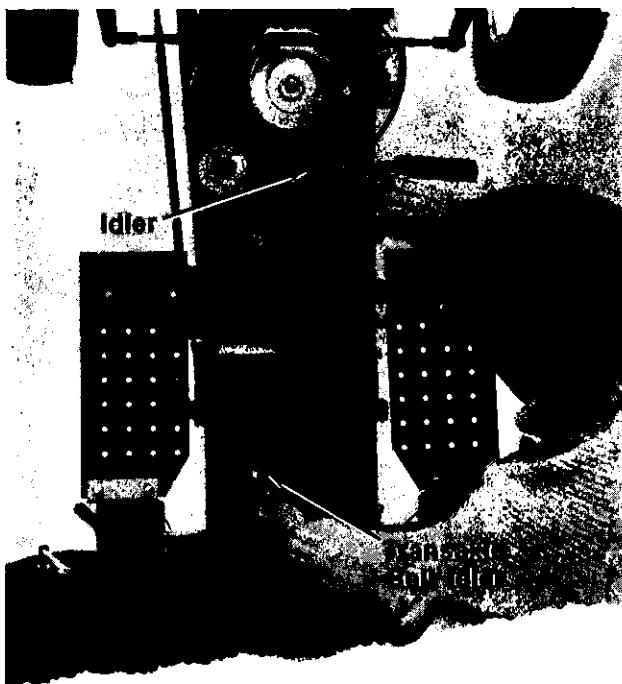

FIGURE 34.
3. Slip the belt away from the idler pulleys. See figure 34.